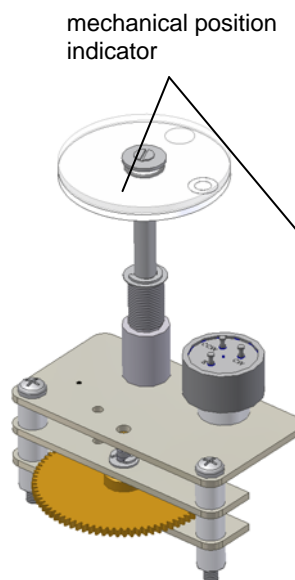

fig. 13
- For units with mechanical position indicator turn the wheel (see fig. 13 und fig. 14) until the value displayed at the position is between 5 and 10%. (see fig. 15)